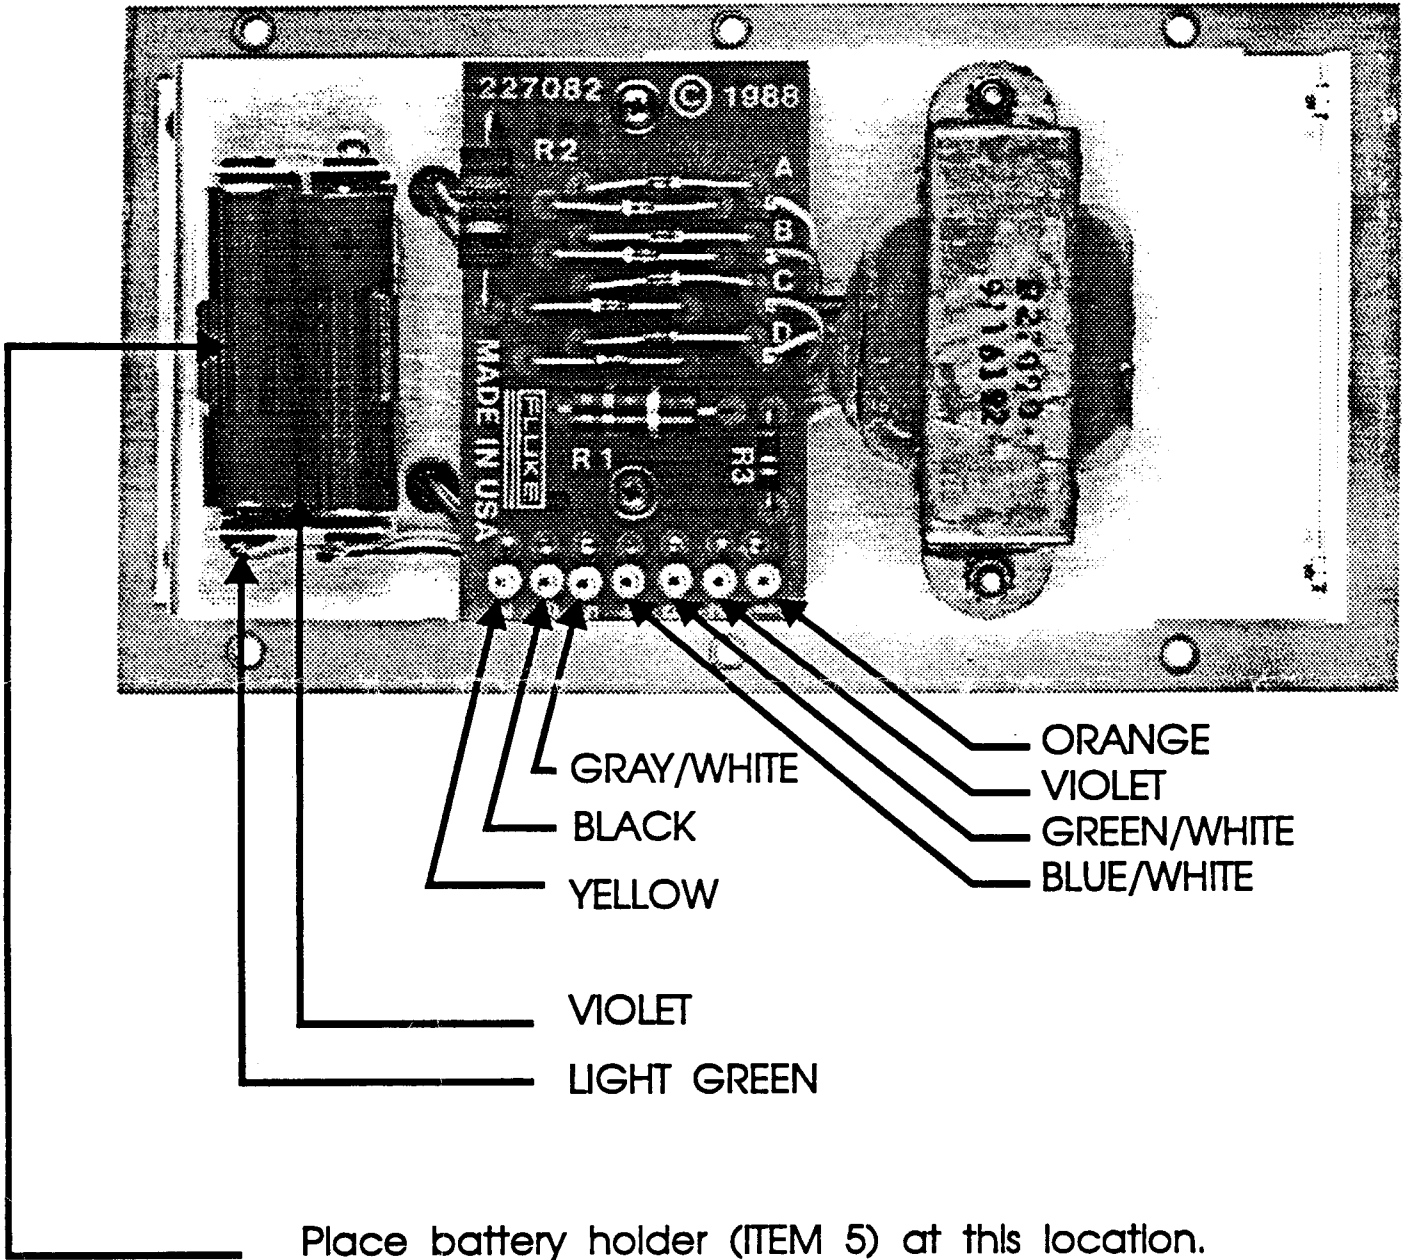

Figure 1
4. Clean the battery bracket surface with alcohol, remove the protective paper from the battery holder, Item 5, and install to bracket as shown in Figure 1. Press battery holder firmly into place.
5. Solder the two wires from the old battery clip to the new battery holder, green wire to positive, violet wire to negative, see Figure 1. Place the heat shrink sleeving, Item 9, over the terminals, cut to length, and shrink with heat. **DO NOT** install the lithium batteries at this time.